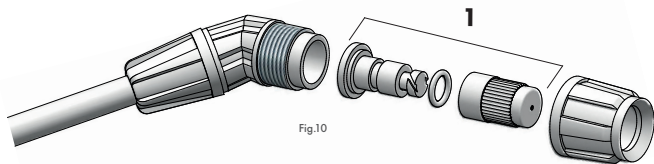
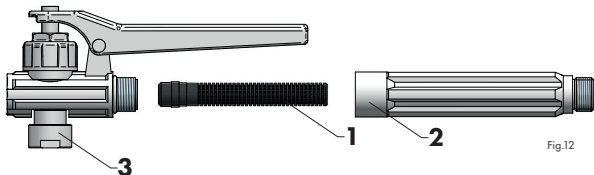

Fig.10
Fig.12
Move the sprayer to the work site. Use the piston rod (fig. 7c) to pump the sprayer (around 20 full motions) until the safety valve operates (fig. 7a/pos. 1). As soon as the safety valve opens (fig. 7a/pos. 1), maximum tank pressure has been reached. Monitor the tank pressure on the pressure gauge (fig. 12/pos. 3).
Point the lance tip (fig. 10) at the location to be sprayed.
During operation, the pressure in the tank will decrease. Monitor the pressure on the pressure gauge (fig. 12/pos. 3). Restore the tank pressure by pumping.
With the adjustable nozzle (fig. 10/pos. 1) you can regulate the output stream. By tightening or loosening the nozzle tip you can achieve various spraying degrees - from mist to continuous stream.
The filter (fig. 12/pos. 1) located on the lance handle (fig. 12/pos. 2) and the adjustable nozzle (fig. 10/pos. 1) located at the lance tip (fig. 1/pos. 1) must be cleaned periodically and before any prolonged downtime.
Clogged adjustable nozzle on the lance tip (fig. 10/pos. 1).	Unscrew the lance tip and remove the adjustable nozzle (fig. 110/pos. 1). It can be disassembled, cleaned and reassembled.